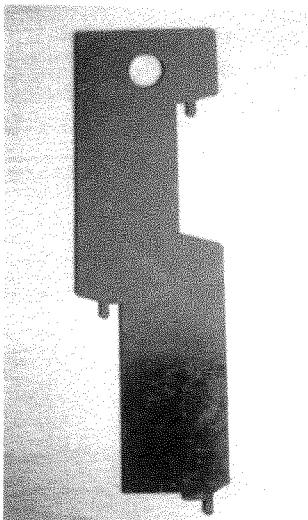

Figure 20 – Odd Size 20oz. bottle spacer
1. To vend an odd size 20oz bottle, a spacer must be installed in the front bottle section only (reference figure 20 & 21).